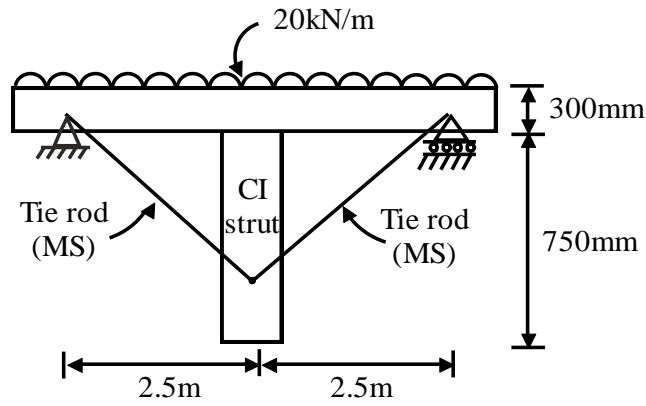

Fig. 10
9. Analyse the truss by strain energy method and find the forces in members of truss shown in fig. 10.